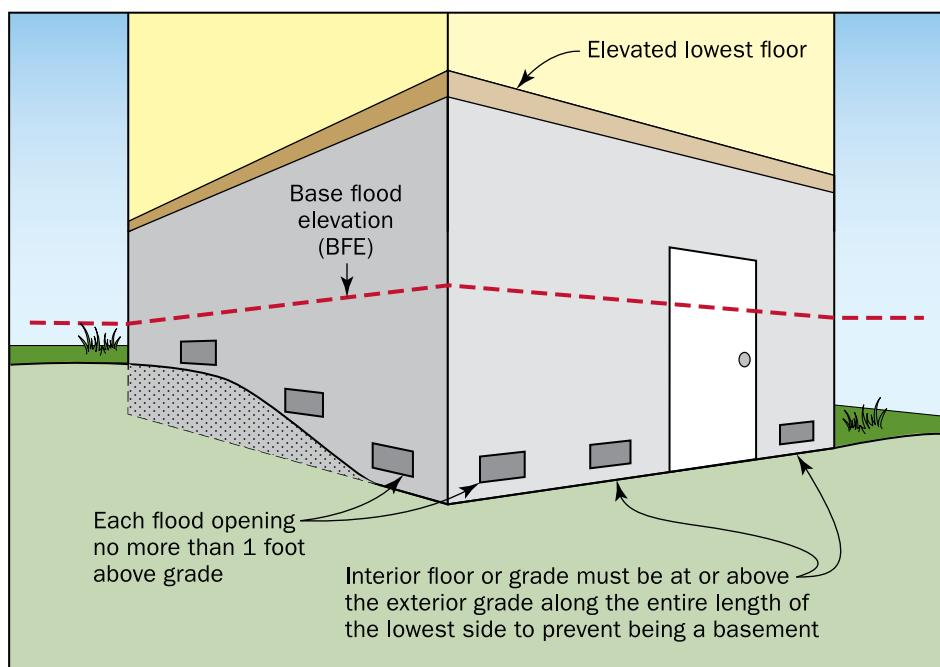

Figure 13: Flood openings in enclosure walls on a sloping site
- The bottom of each opening must be no higher than 1 foot above the exterior or interior grade immediately below the opening, whichever is higher (see Figure 13).